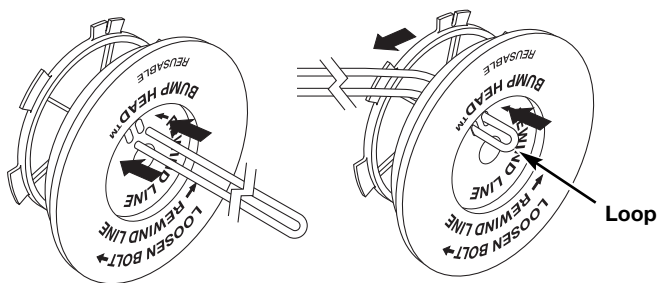

Fig. 35
6. Take approximately 18 feet (6 m) of new trimming line, loop it into two equal lengths. Insert each end of the line through one of the two holes in the inner reel (Fig. 35). Pull the line through the inner reel so that the loop is as small as possible.